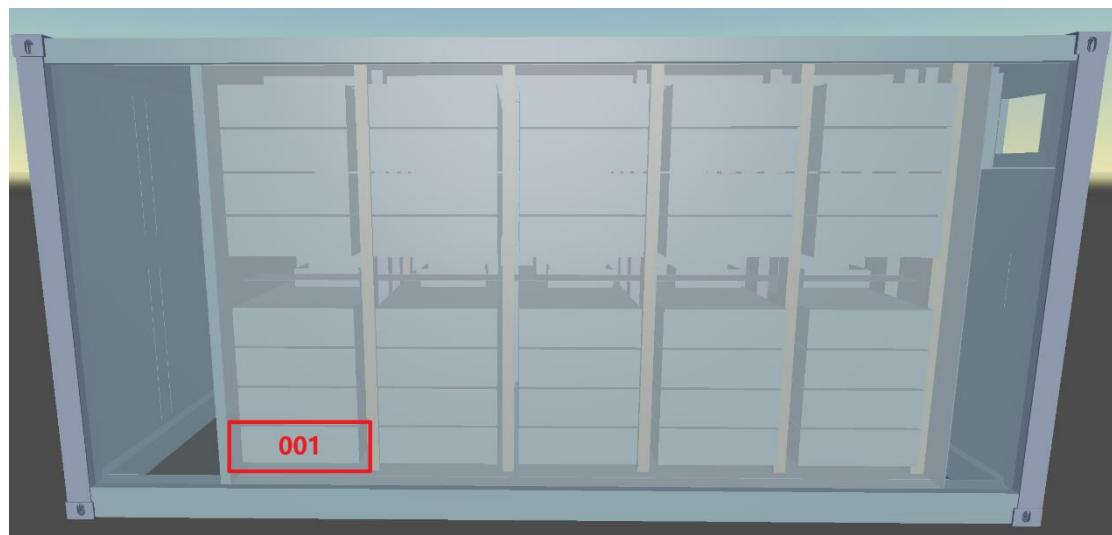

Figure 3.4. Location of gas leakage position (back view)
**Assumption:** One offgas release position on the rack is considered in this study. (See Figure 3.4)